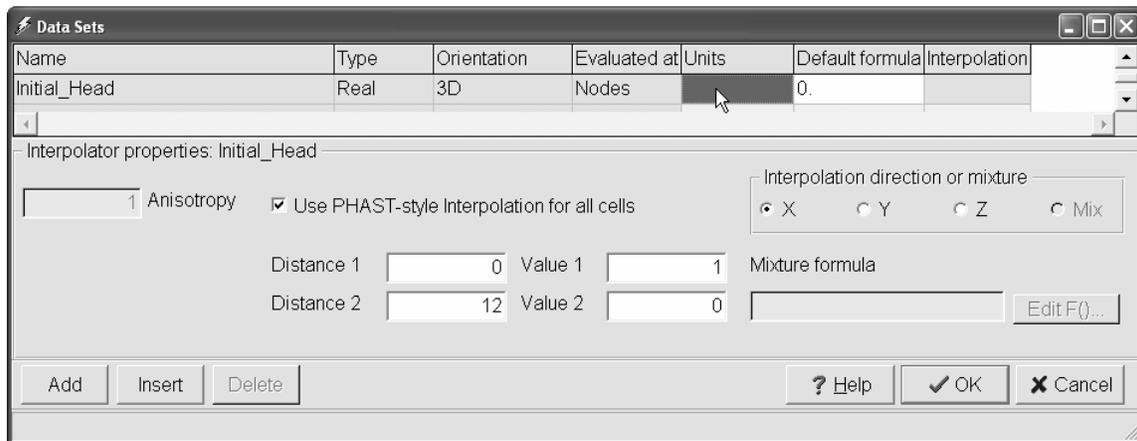

Figure 38. Data Sets dialog box showing how to set up a gradient in initial head.
15. The next step is to set the initial heads. The heads will vary uniformly from 1 on the left to 0 on the right. Select **Data|Edit Data Sets...** Select the row for **Initial_Head**. Note that the **Use PHAST-style interpolation for all cells** checkbox becomes enabled. Check this checkbox. Leave the **Interpolation direction** set to X. Set **Distance 1** and **Distance 2** to 0 and 12 respectively. Set **Value 1** to 1 and **Value 2** to 0 (fig. 38).